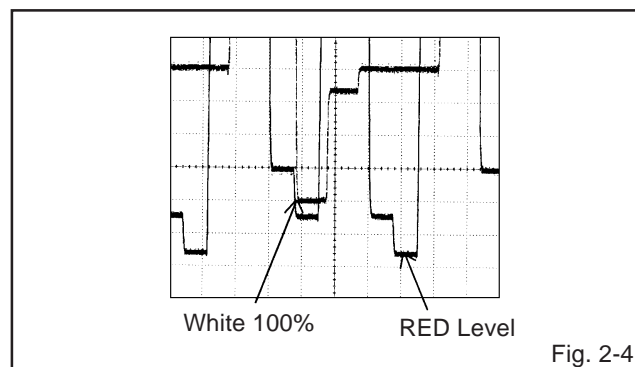

Fig. 2-4
12. Press the VOL. UP/DOWN button on the remote control until the red color level is adjusted to 140% of the white level. **(Refer to Fig. 2-4)**